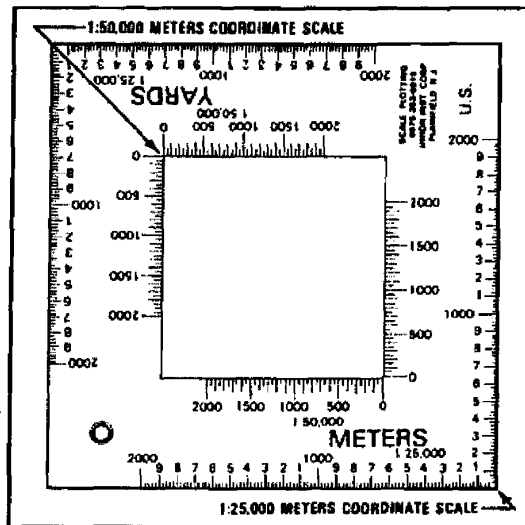
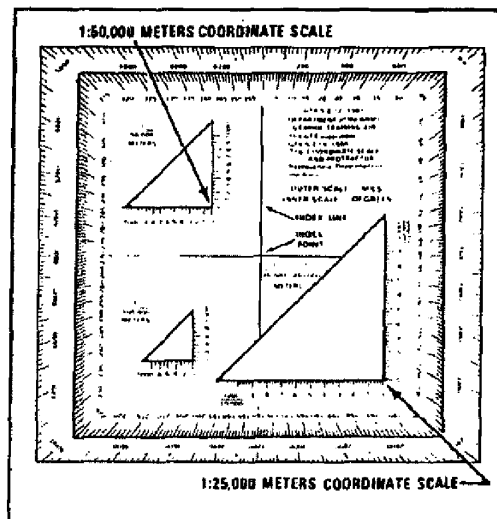

Figure C-13. Coordinate scale and protractor
Figure C-14. Plotting scale
3. Use a coordinate scale. The most accurate way to determine the coordinates of a point on a map is to use a coordinate scale. You do not have to use imaginary lines because you can come up with the exact coordinates. This scale is on the coordinate scale and protractor (GTA 05-02-012) (figure C-13) or the plotting scale (figure C-14). Both of these devices include two coordinate scales, 1:25,000 and 1:50,000 meters. Make sure that when you use either of these devices, you use the correct scale.